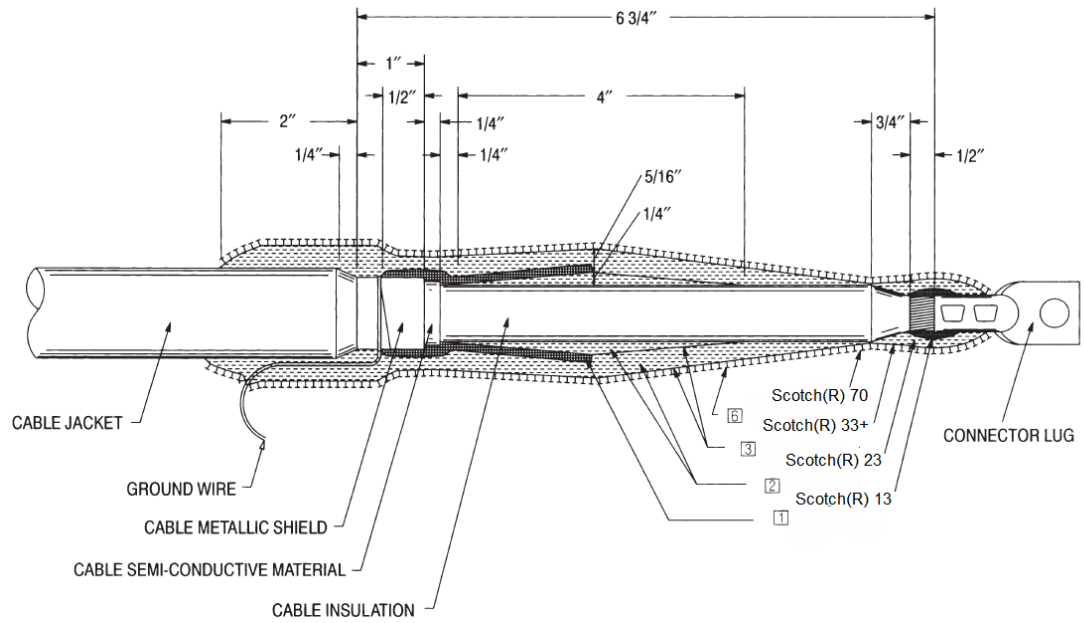

Figure 1
**Termination Tracking Test:** Reduced-dimension terminations are prepared according to 3M print 2047-B-16 (See Figure 1). Each specimen consists of 8 feet of 15 kV cable and two terminations. The contaminant employed in this test is the formula called out in ASTM Dust and Fog Test D-2132, as shown below: